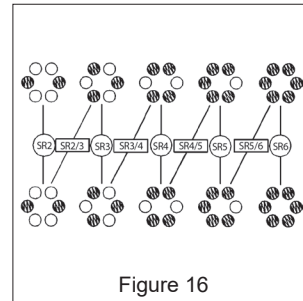

Figure 16
3. End Cap (30, 31) and Spring Cartridge (17) Assembly, (Figures 16 through 18):
- For spring-return actuators, insert the proper quantity of spring cartridges (17) according to the pattern shown in **(Figure 16)** (referring to the total number of springs). Insert spring cartridges (17) as shown in **(Figure 17)**.
- Apply silicone grease to the end-cap o-ring seals, using the recommended o-ring area grease listed in **(Table 3)**. Fit the end-cap o-ring seals (14) into the groove in each end cap (30, 31).
- Fit the end caps (30, 31) onto the body (50), verifying that the o-ring seals (14) remain in the grooves.